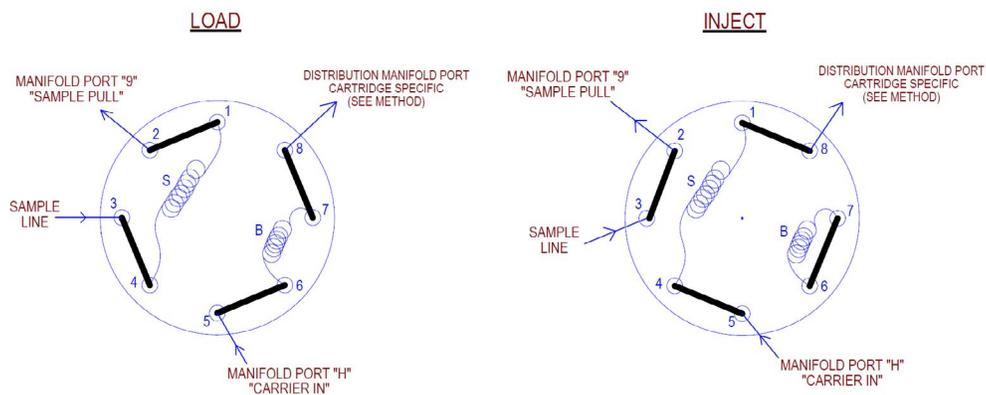
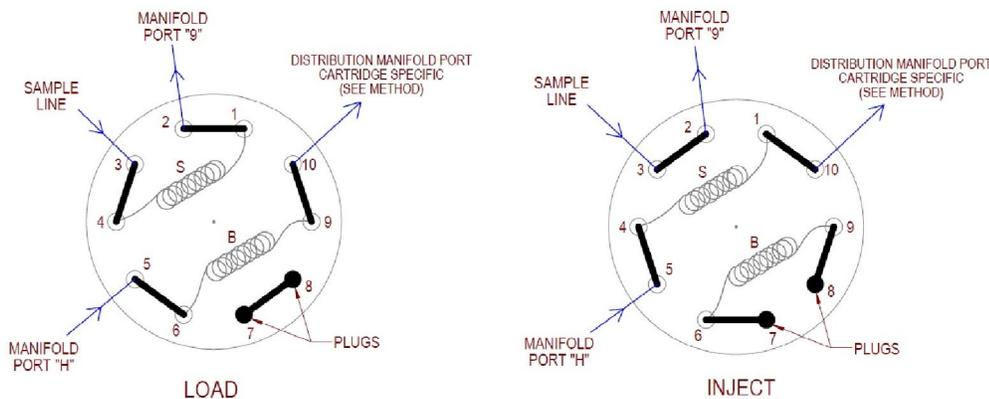

Figure 3.8. Plumbing the 8-port Valve to the Cartridge
Figure 3.9. Plumbing the 10-port Valve to the Cartridge
- Valve port 8 (for 8-port valves, see Figure 3.8) or valve port 10 (for 10-port valves, see Figure 3.9) is connected to port 1, 2, or 3 on the distribution manifold (this varies by chemistry).